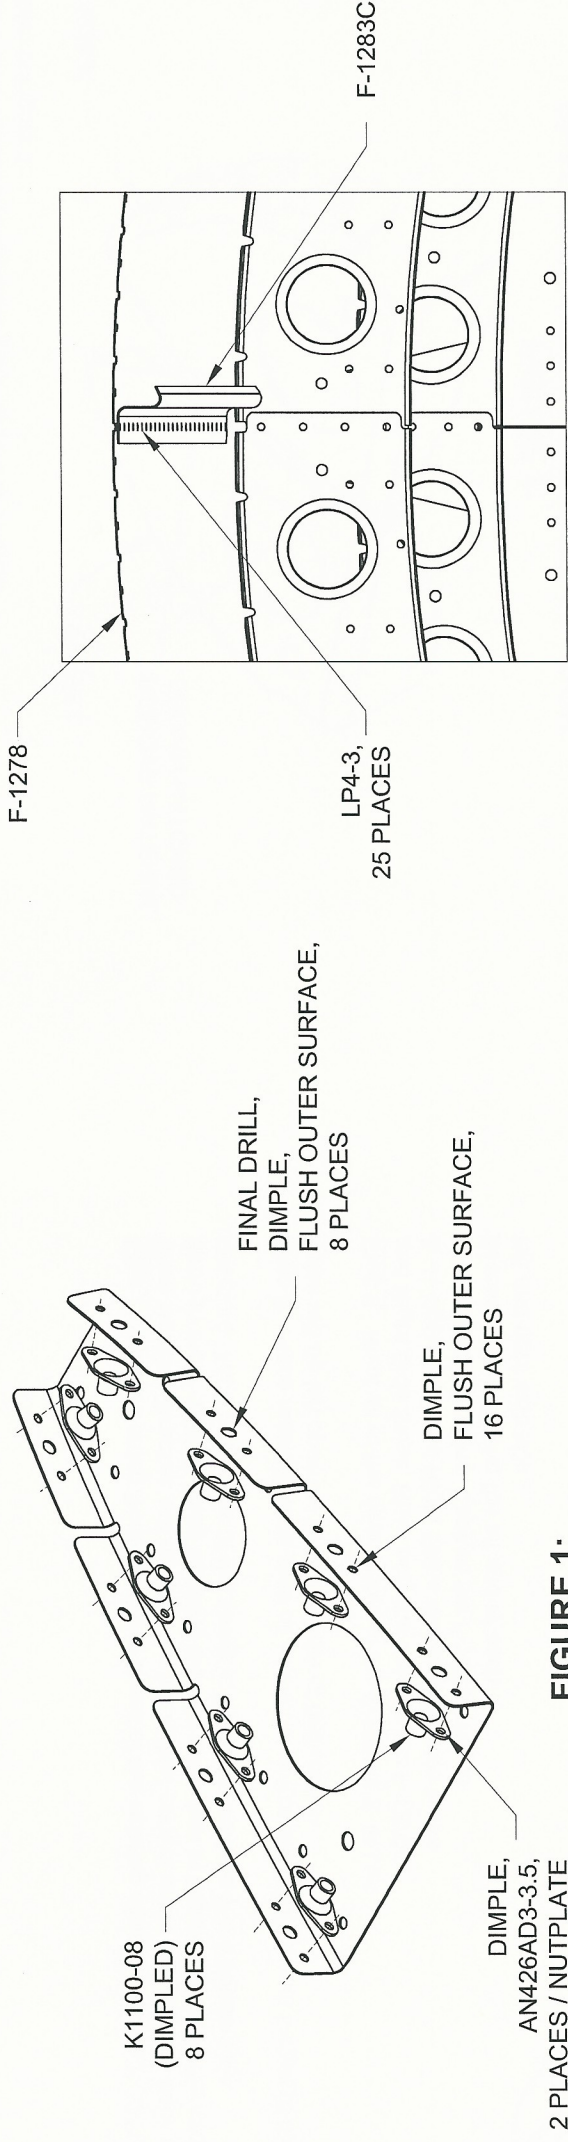

FIGURE 1:
- Step 1: Final-Drill #19 the screw holes of the F-12106 Fwd Skin Rib per call-outs in Figure 1.
- Step 2: Dimple #8 the screw holes of the F-12106 Fwd Skin Rib per call-outs in Figure 1.
- Step 3: Dimple 3/32 the nutplate attach holes of the F-12106 Fwd Skin Rib per call-outs in Figure 1.
- Step 4: Dimple 3/32 the nutplate attach holes of eight nutplates per call-outs in Figure 1.
- Step 5: Rivet the dimpled nutplates to the F-12106 Fwd Skin Rib using hardware called out in Figure 1.